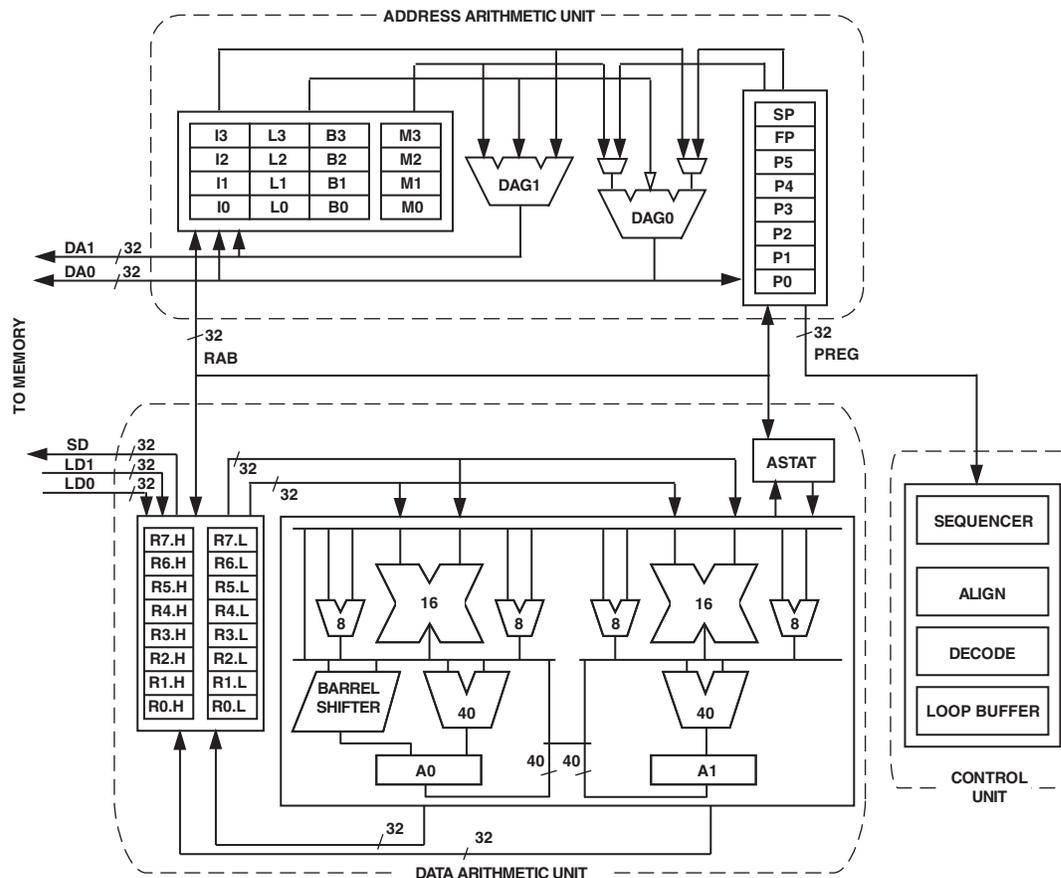

Figure 1. Blackfin Processor Core
The ADSP-BF512/BF514/BF516/BF518(F) processors contain a rich set of peripherals connected to the core via several high bandwidth buses, providing flexibility in system configuration as well as excellent overall system performance (see Figure 1 on Page 4). The processors contain dedicated network communication modules and high speed serial and parallel ports, an interrupt controller for flexible management of interrupts from the on-chip peripherals or external sources, and power management control functions to tailor the performance and power characteristics of the processor and system to many application scenarios.
As shown in Figure 1 on Page 4, the Blackfin processor core contains two 16-bit multipliers, two 40-bit accumulators, two 40-bit ALUs, four video ALUs, and a 40-bit shifter. The computation units process 8-, 16-, or 32-bit data from the register file.